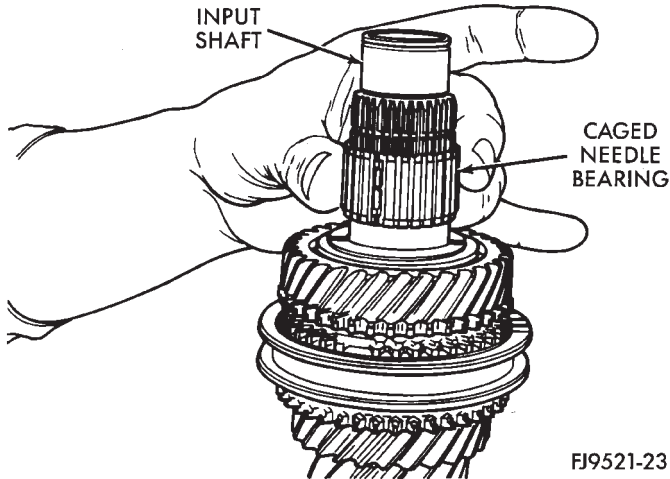

Fig. 103 Caged Needle Bearing Installation
- (10) Install 5th gear caged needle bearing (Fig. 103).